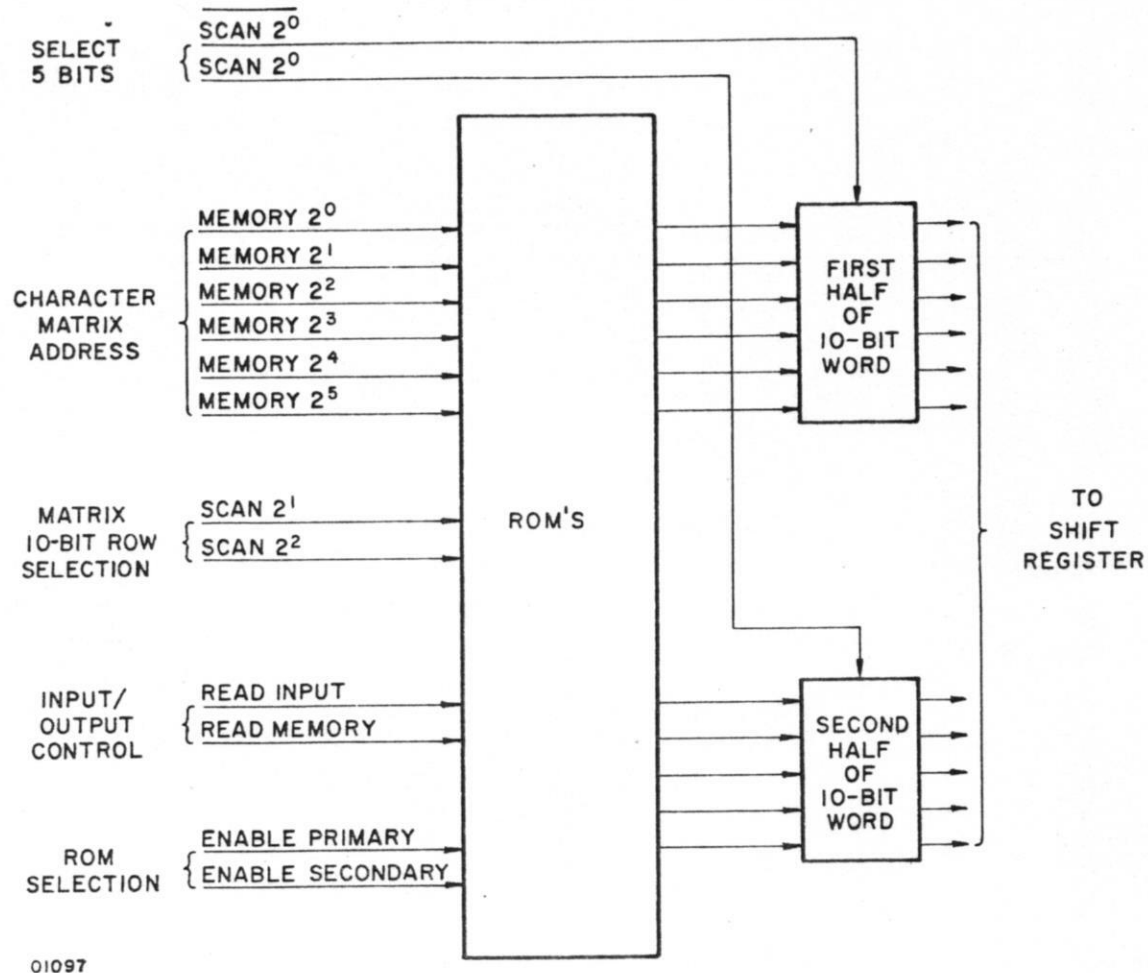

Figure 4-8. Read-Only Memory Signal Lines
A preprogrammed read-only memory, ROM contains a character matrix which supplies the bits to build the video pulse train which unblanks the CRT electron beam to form a horizontal 5-dot row within the character matrix in the display line. The electron beam displays only one 5-dot row of each character in a display line for each horizontal scan line. The ROM has a separate matrix for each character in the repertoire of the logic module. As figure 4-8 shows, a code from the read/write memory determines the selection of the preprogrammed character matrix. When the synchronous timing signal read input (RI) arrives, the ROM logic samples the read/write memory code on the character matrix address lines to select the related character dot matrix in the ROM. Inputs scan 2^1 and scan 2^2 select one row in the character matrix to produce a 10-bit word output. Later, shortly after the synchronous timing signal read memory (RM) arrives, the ROM makes a 10-bit word available on its output lines. Because the electron beam displays only 5 dot positions of a character for each scan line, the 10-bit word furnishes the dot blank/unblank information for two adjacent scan lines of one character. Scan counter outputs scan 2^0 and scan 2^0 select one-half of the 10-bit word when the counter has an even count. The following odd count in the scan counter switches scan count bit 2^0 and enables the selection of the other half of the 10-bit word. The third advance of the scan counter enables the selection of a new row in the character matrix to form a new 10-bit word.